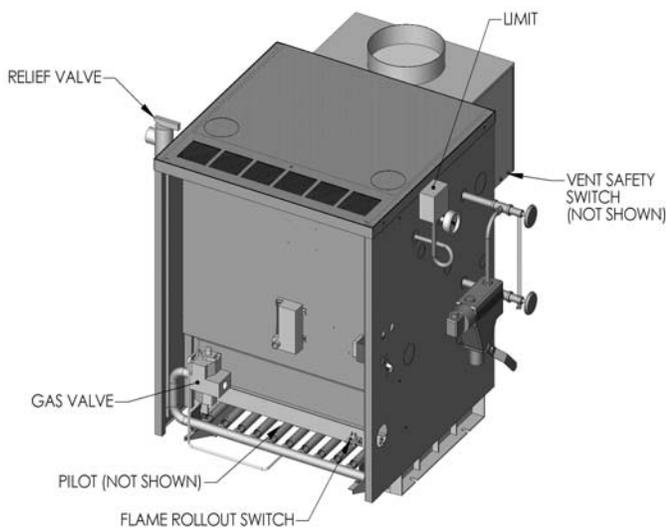

Figure 1: Control Location
- B. **Control Locations.** See Figure 1 for Control and Safety Device Locations.